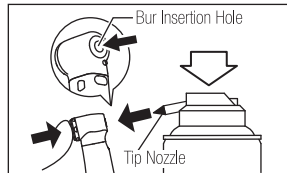

Fig. 18
- 2) Lubricate the chuck directly through the bur insertion hole (Fig. 18).